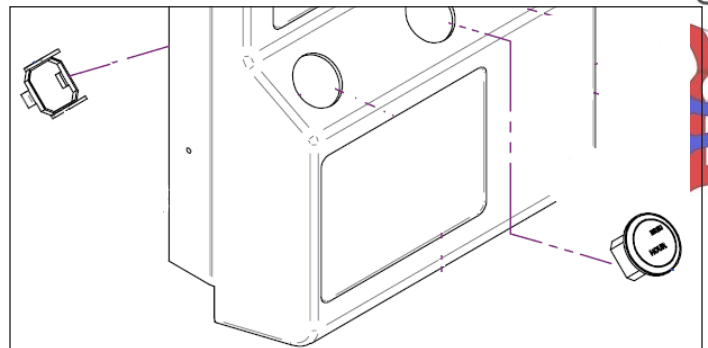

Figure 8-7. Hour Meter Mounting
3. Position new hour meter to face of console and secure with retainer on back side of console (Figure 8-7).